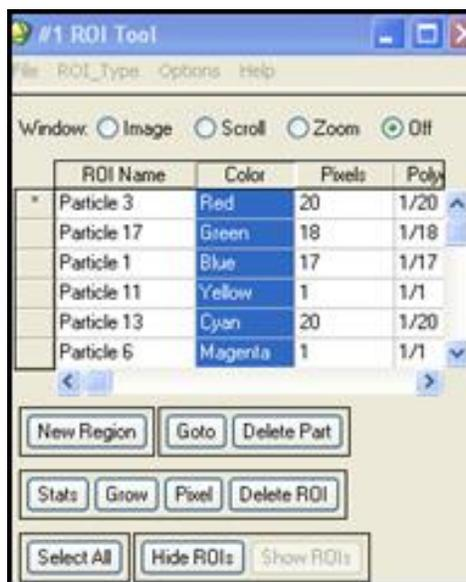

Figure 8.1i. ROI Tool box
- In the Particle Filter Review Tool you could make a Spectral Library for each particle that was found over a range of wavelengths between 475 nm and 525 nm by selecting the appropriate rows in the list. Then choose Export, then To Region of Interest and the ROI Tools Dialogue Box opens (Figure 8.1i).
- The ROI Tool opens with the particles listed as individual ROIs which you can apply to the image. You can create different colors for the ROIs by right-clicking Color and choosing Assign default colors (Figure 8.1i).